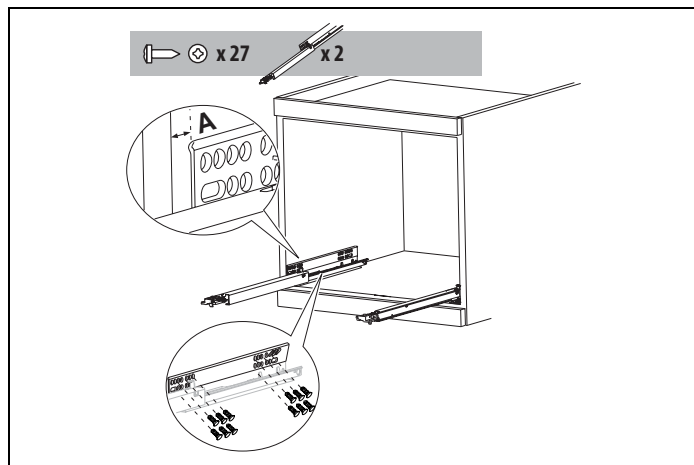

Fig. 4
- Position the rails on the sides of the cabinet as shown in the Fig. 4 . Fix with the screws provided, then extract them completely.